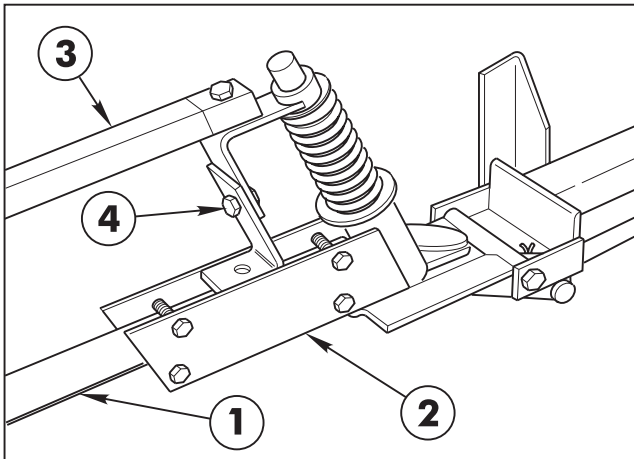
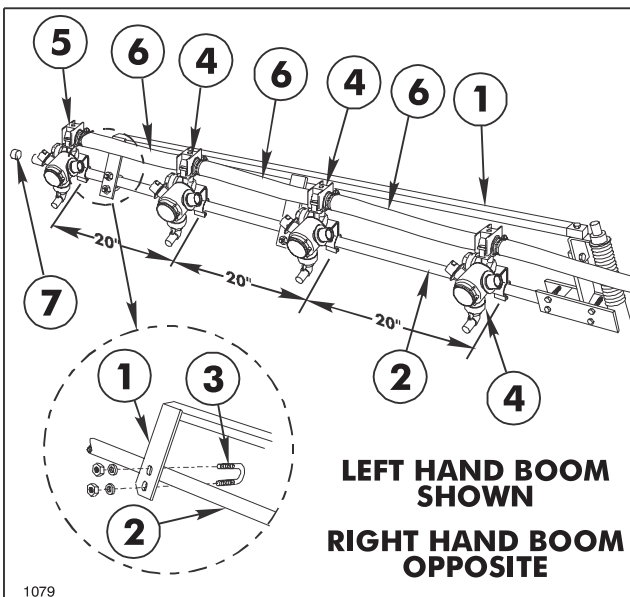

FIG. 14
FIG. 15
4. Insert the plugged end of an Extension Boom Pipe into the Pivot Assembly and secure with (4) 1/4" x 1-1/4" hex hd. cap screws and locknuts. Repeat on the opposite side to assemble the other extension boom. See FIG. 14.
5. Attach the LH Boom Support Assembly to the Pivot Assembly at LH end of Boom Main Frame, using a 5/16" x 1-1/2" screw and locknut (FIG. 14 & FIG. 15).
6. Secure the two plates of Boom Support Assembly to the Extension Boom Pipe, using (2) 1/4" U-bolts, (4) flat washers, and (4) locknuts (FIG. 15).
9. Attach three Double Barb Turret assemblies and one Single Barb Turret assembly with Nozzle Body Clamps on each extension boom pipe as shown in FIG. 15.
10. Level Nozzles and space 20" apart. Connect the Turret Body assemblies with the 3/4" x 19" jumper hoses. Secure with hose clamps. See FIG. 15.